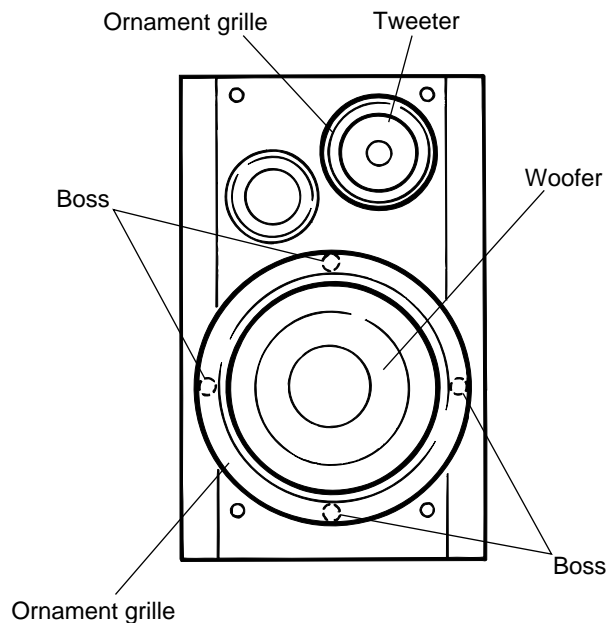

Fig.1
■ Removing the speaker (woofer) (See Fig.1,3 to 5)